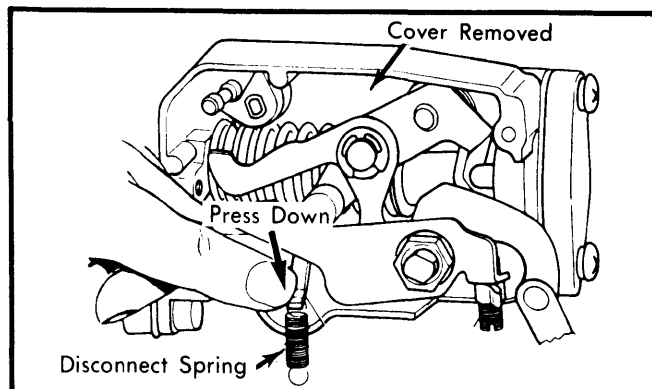

Fig. 6 Fast Idle Adjustment
- 1) Disconnect spring and push lever downward, but do not force. See Fig. 6.